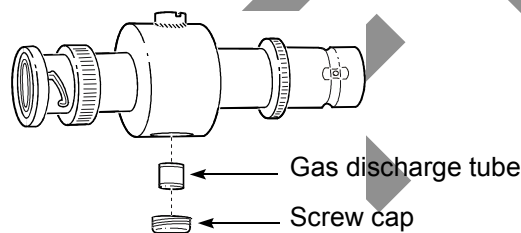

Figure 23 – Replacing a gas discharge tube in a surge protector
4. Replace the gas discharge tube; see *Figure 23*.